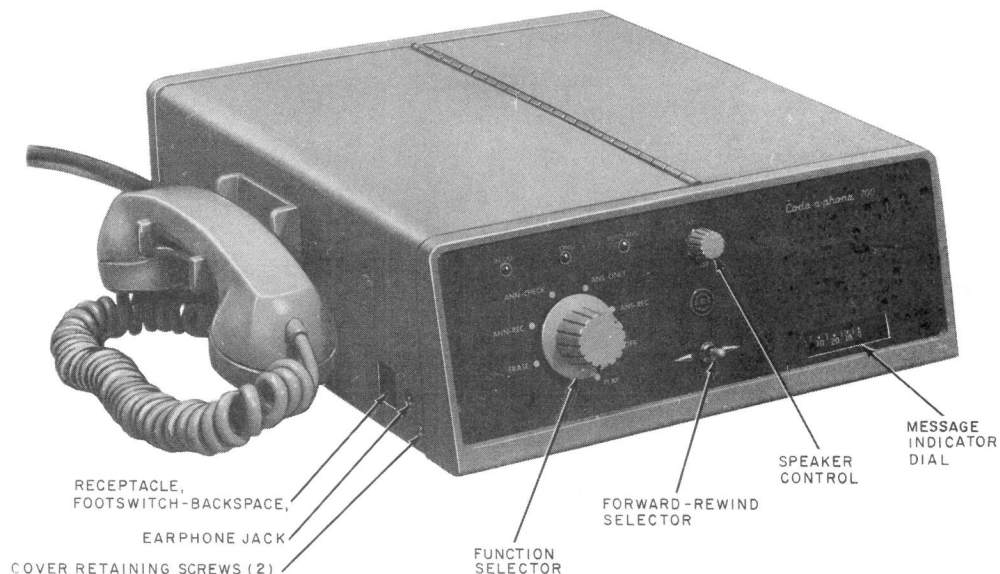

Fig. 1—KS-19245, Lists 13 (MD) and 24 Telephone Answering Set
1.01 This section contains information for the KS-19245, Lists 13 (MD) and 24 (Fig. 1) telephone answering set. For additional information on identification, installation, connections, and operation, refer to Section 514-155-100.